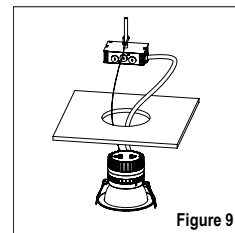

Figure 9
5. Connect incoming AC mains power to fixture input leads. Insert the downlight conduit into the J-box and wire to the power source (black to hot, white to neutral, violet to 0-10V dimming positive, pink to 0-10V dimming negative). Reattach the J-box cover when done. (The grounding of the overall system shall be done in accordance with NEC and local codes). (See Fig. 9)